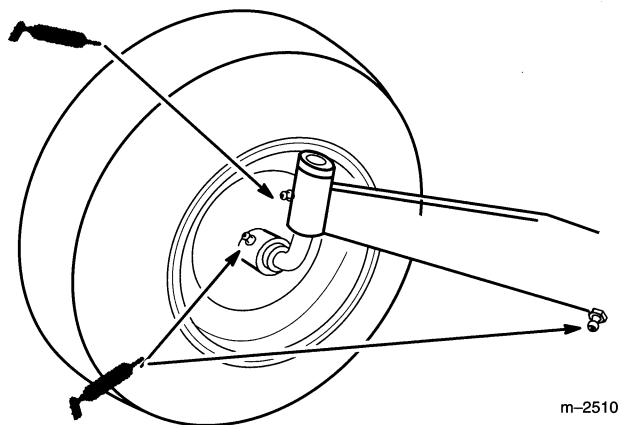

Figure 23
1. Lubricate the front wheels, spindles and tie-rod ends until grease begins to ooze out of the bearings (Fig. 23).
2. Lubricate the front axle pivot (Fig. 23).